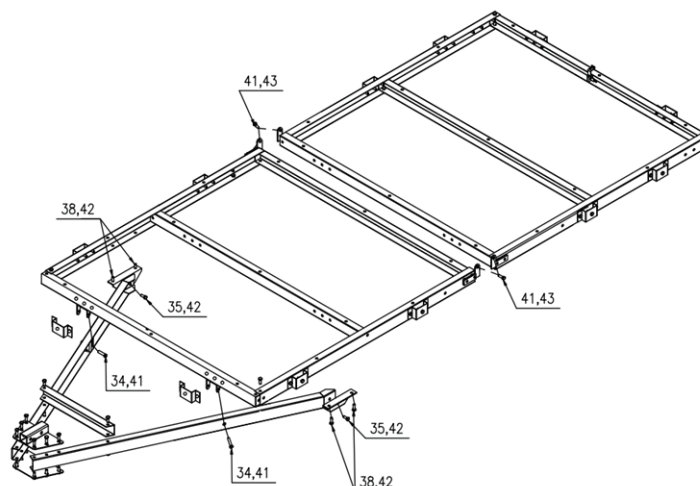

Figure 4: Assembling the Front Trailer Frame, Rear Trailer Frame and Trailer Tongue
13. Attach the Tow Bar Brackets (6) to the Front Right / Left Side Rails (1FR/1FL) using **four** M10x30 Bolts (38) and M10 Nuts (42)
14. Attach the Tow Bars to the brackets on the Front Cross Member (3) using **two** Pin $\phi 12 \times 80$ (34) and R pin (Big) (47).
15. Assemble the Front Trailer Frame and Rear Trailer Frame of the Trailer by using **two** M12x30 Bolts (43) and M12 Nuts (41). Insert the Bolts through the Hinge Plates (22) and secure in place with Nuts. **See Figure 4**